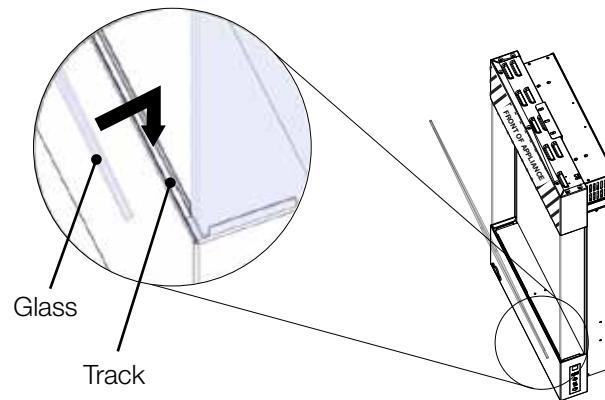

Fig. 2
2. Place the glass into the track located inside the firebox (**Fig. 2**).